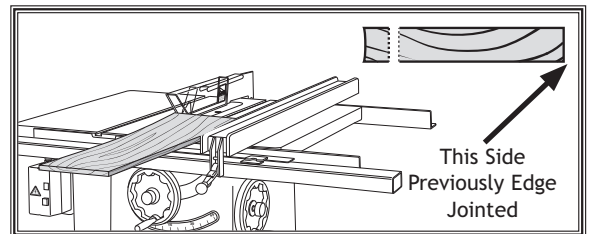

Figure 33. Rip cut on a table saw.
4. **Rip Cut on a Table Saw:** The jointed edge of the workpiece is placed against a table saw fence and the opposite edge cut off (Figure 33).